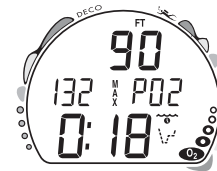

Fig. 31 - Oxygen Control
- If the O₂BG and O₂ symbol are displayed (Fig. 31), it is calculated to be controlled by oxygen loading.